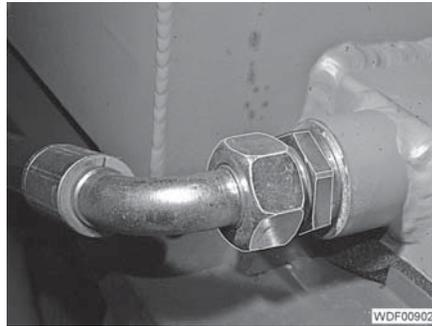

Fig. 75 Hydraulic line
- Unscrew and close off the hydraulic line (Fig. 75).